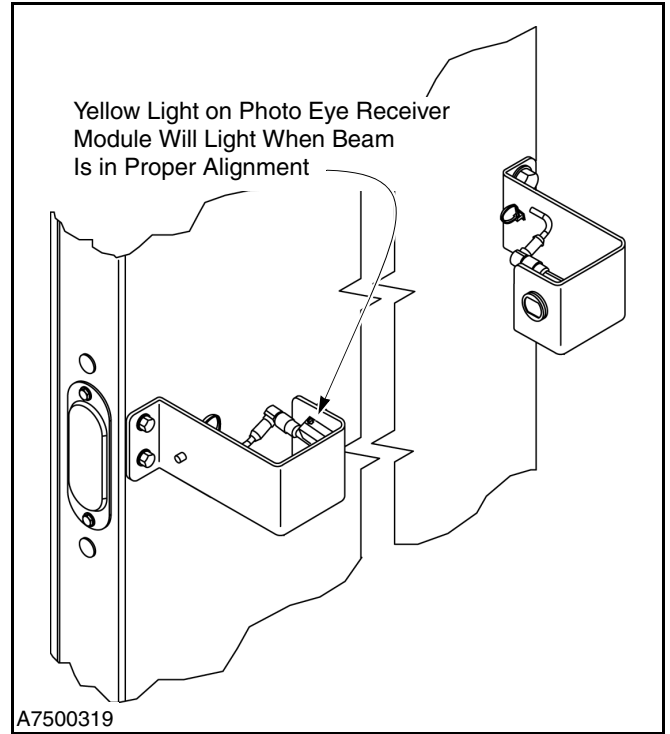

Figure 32
1. Check to see that the photo eye on the front side of the door has been installed for a horizontal beam across the door opening. (See Figure 32.)
When the photo eyes are aligned, the yellow light on the top of the receiver module will be illuminated. (See Figure 32.)